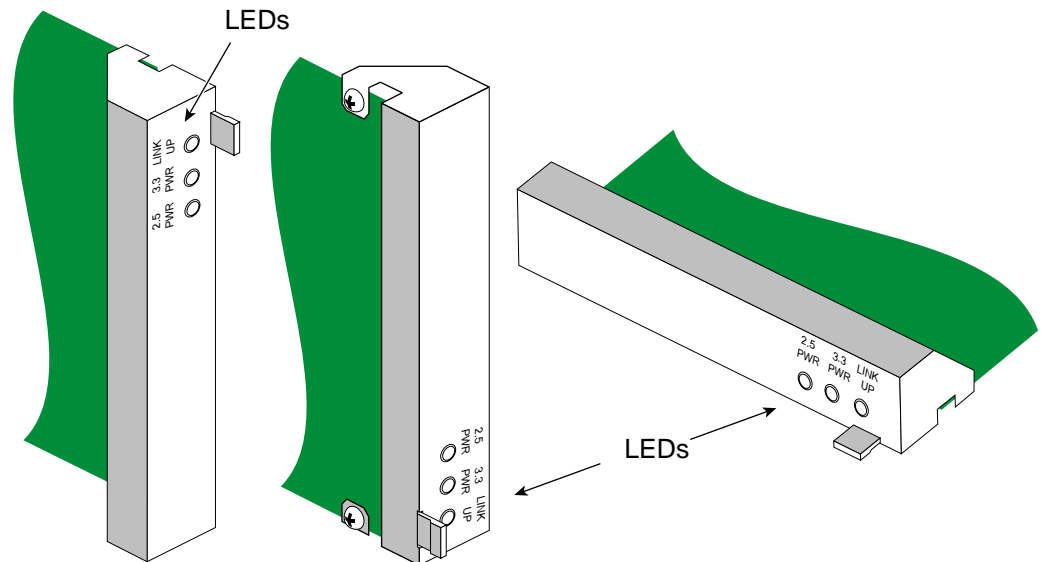

Figure 1 Panel Plate and LEDs for the TPU XIO Board
- Figure 1** Panel Plate and LEDs for the TPU XIO Board 3
3. Determine which XIO slots in the selected module are usable. Figure 1 illustrates the XIO slots in a processor module.